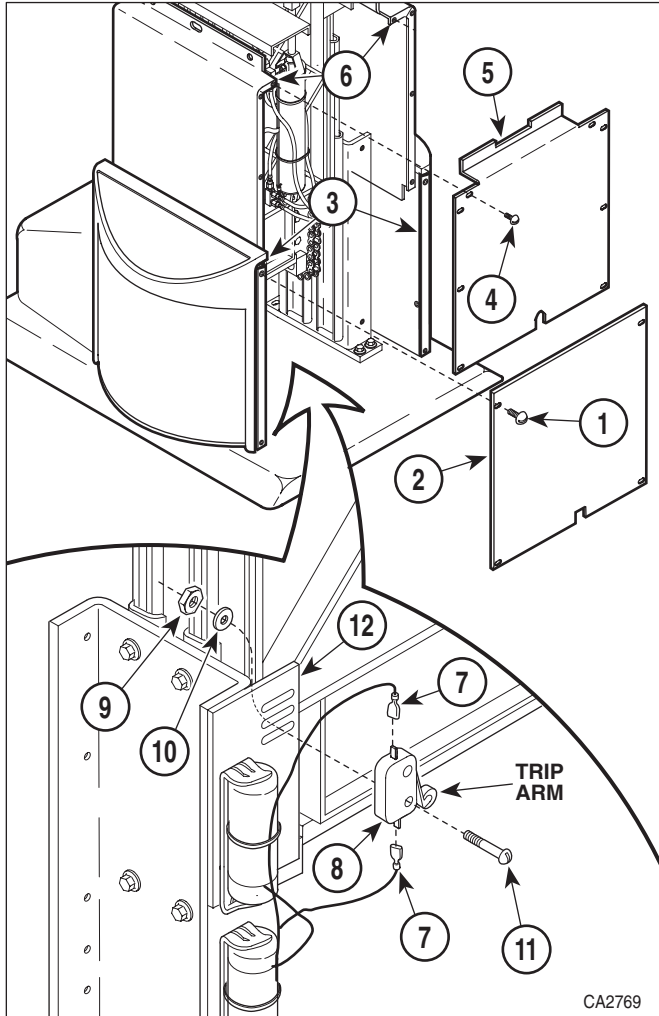

Figure 4-24. Base Down Limit Switch Removal / Installation
- (1) Raise FOOT UP function all the way up.
- (2) Unplug table power cord from outlet.
- (3) Remove four screws (1, Figure 4-24) and front outer shroud (2) from left and right hand outer shrouds (3).
- (4) Remove eight screws (4) and front inner shroud (5) from left and right hand inner shrouds (6).
- (5) Tag and disconnect two wires (7) from terminals of base down limit switch (8).
- (6) Remove two nuts (9), lockwashers (10), screws (11), and base down limit switch (8) from auto return bracket (12).